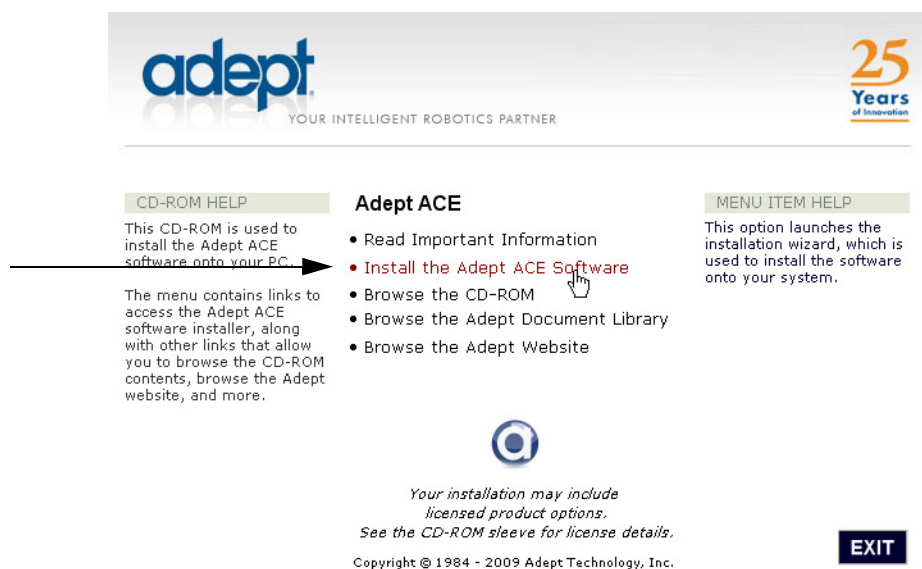

Figure 6. Adept ACE CD-ROM Startup Menu
1. Insert the CD-ROM into the CD-ROM drive of your PC. If Autoplay is enabled, the Adept Software CD-ROM menu is displayed - see **Figure 6**. If Autoplay is disabled, you will need to manually start the CD-ROM.